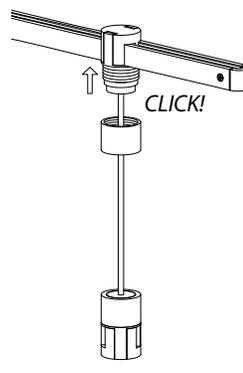

Fig. 9
2. Insert the **Hanger Clip** through the **Hanger Hub** and press up on the Hanger Clip until Hanger Clip clicks into place (Fig. 9).